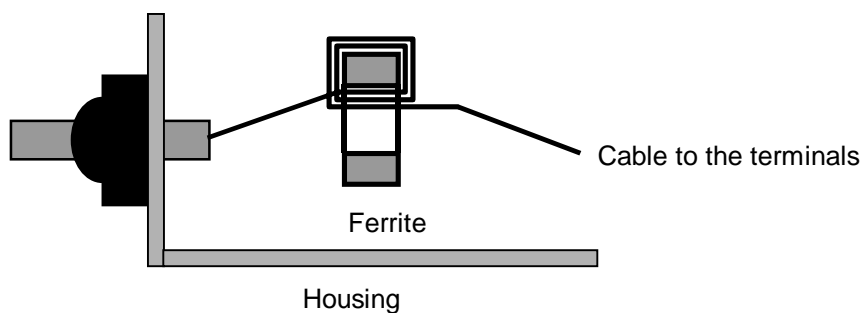

Figure 2
3. Guide all wires of the respective cable through the ferrite three times (two windings, see Figure 2).